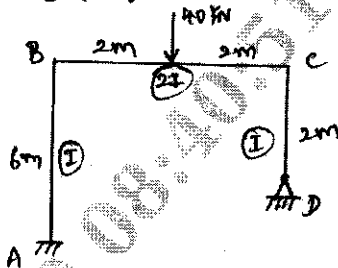

Fig.Q4
- 4 a. Analyse the rigid frame shown in Fig.Q4 by force transformation method.